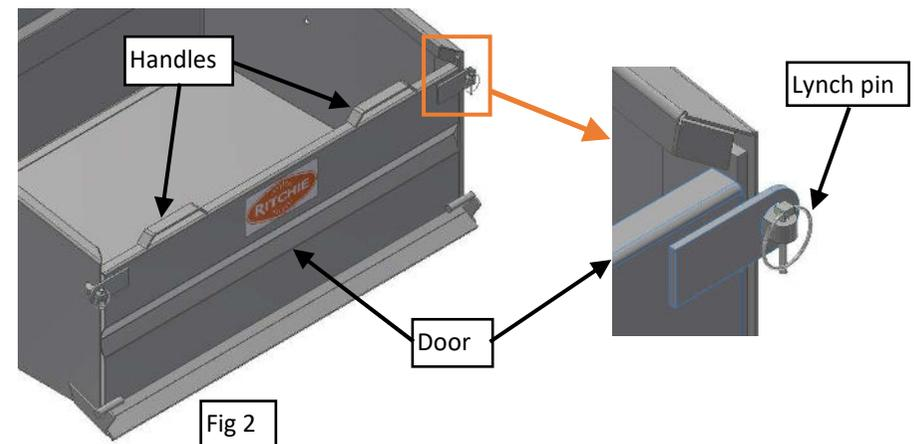

Fig 2
- 6) The door can be removed by taking off the 2 lynchpins holding it closed. Tilt the door slightly forward (so its clear of the lugs) and lift up from the main box. Refitting the door is just the reverse of removal. Using the handles on the door will prevent any accidental pinching of hands and fingers. Fig 2